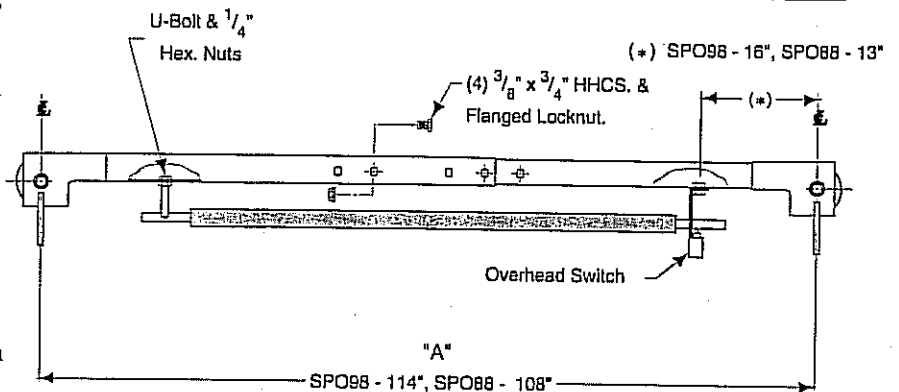

Fig. 6
7. Adjust crosshead to dim. "A", Fig. 6, and install (4) 3/8" x 3/4" HHCS & flanged locknuts. Mount switch assembly towards power unit column as shown, using (2) 1/4" x 3/4" lg. HHCS & nuts. Insert U-bolt through pivot hole in end of switch bar. Insert opposite end (weighted end) of bar through slot in switch mounting bracket. Then secure U-bolt and switch bar to overhead as shown, Fig. 6, using (4) 1/4" hex nuts.